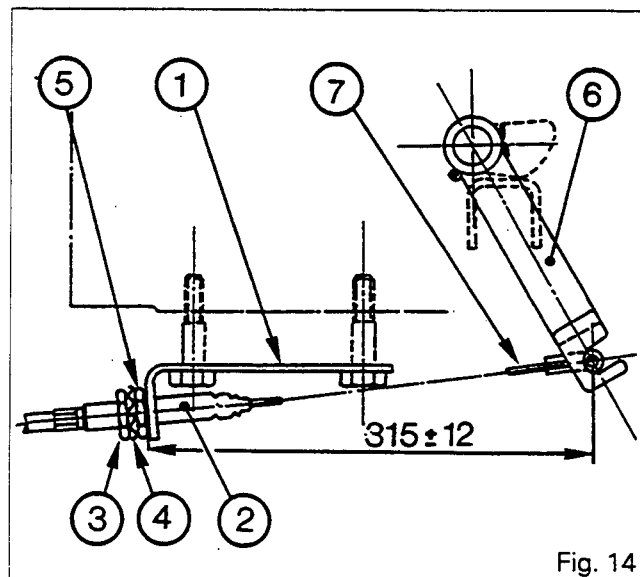

Fig. 14
71. Fit the outer cable stop (2) in the bracket (1) (Fig. 14).
72. Attach the end of the cable (7) to the lever (6) (Fig. 14).
73. Place the handbrake lever in the released position. Adjust so as to obtain a distance of  $315 \text{ mm} \pm 12$  between the nut (5) and the axis of the end of the cable (7) (Fig. 14).
74. Tighten the lock-nut (3) on the washer (4) (Fig. 14).
**Note: For good alignment of the outer cable stop (2) and the cable (7), the nut (5) and the lock-nut (3) are mounted in front of the bracket (1) (Fig. 14).**